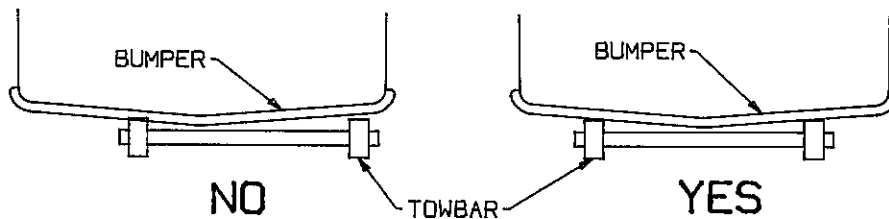

Figure 6-4.1
- 6-4.2 Back your LOADOLL up in-line with the vehicle to be towed. Leave a 4 to 5 foot (48 - 60 inch) gap between the tow-bar and the vehicle to be towed. Make certain the tow-bar is centered from side to side with the vehicle to be towed. (See fig. 6-4.1)